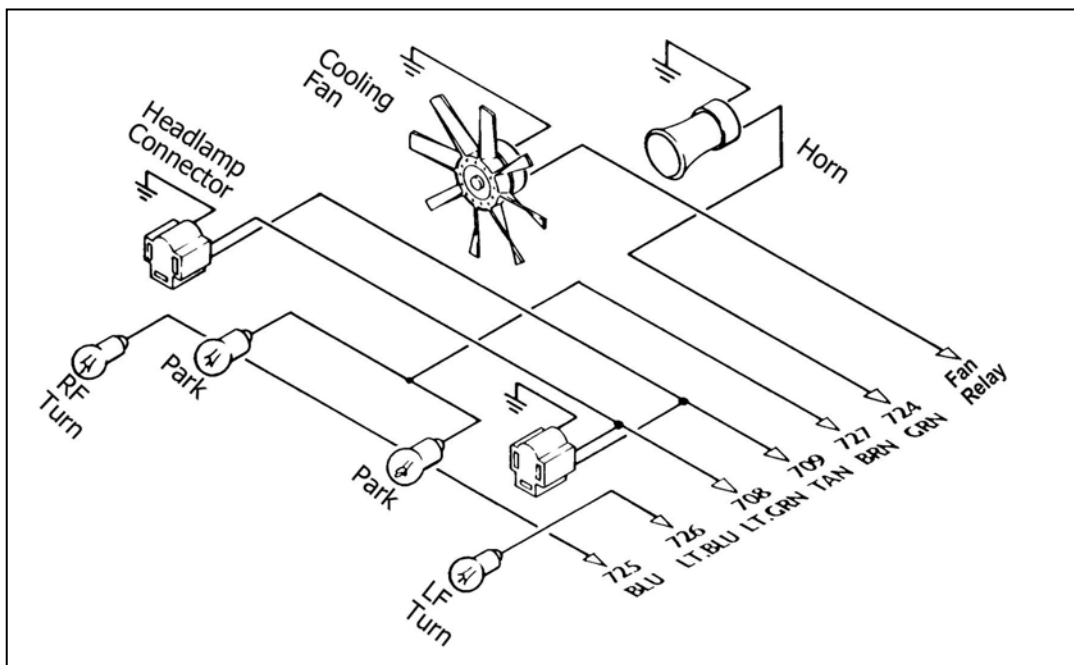

Figure 7.4 HEADLIGHT SECTION A
7.6 HEADLIGHT SECTION A. See Figure 7.4.
Note: The wire going to the fan in Figure 7.4 will be coming from the fan relay output terminal. Wire #701 (gry/wht) from the ACCESSORY SECTION SWITCHES is an activation wire for the fan relay.